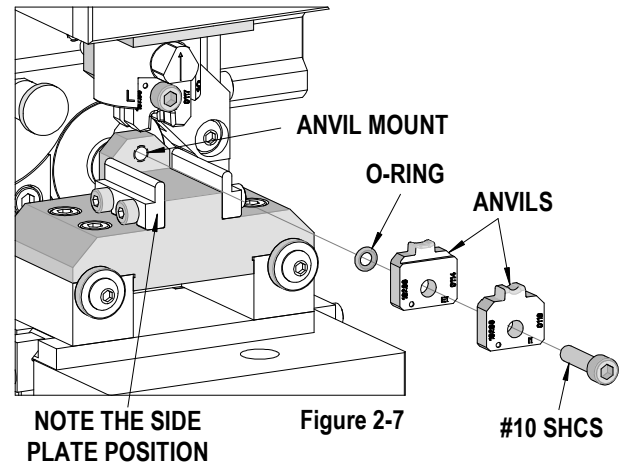

Figure 2-7
- To remove the anvils, use a 5/32" hex wrench to remove the #10 SHCS holding the anvils to the anvil mount. See Figure 2-7.